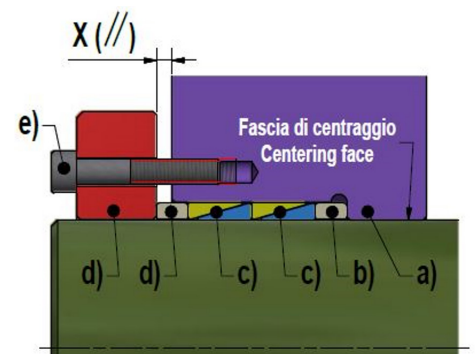
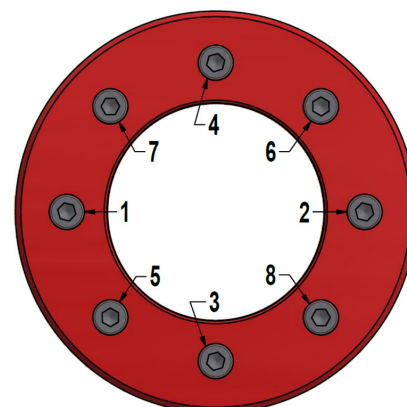

Fig. 4
Fig. 5
2. Install the parts in the following sequence (fig. 4).
3. Tighten the screws by hand in a crosswise pattern (fig. 5) until fitting clearances with shaft and hub bore are bridged and connected components are slightly locked, while making sure that hub is aligned as required using a dial indicator. The distance (X) between thrust ring and hub or shaft end **shall never be zero and be uniform** around the circumference (fig. 4). **Better centering of hub from the beginning of installation is essential for better centering when installation is completed.**
4. Use a torque wrench set approx. 5% higher than the design tightening torque. **Progressively tighten the screws in a crosswise pattern (fig. 5), using approx. ¼ turns for several passes until ¼ turns can no longer be achieved.**
7. **Check the distance (X) (fig. 4): the thrust ring must never contact the face of the hub or shaft end. Remaining distance shall be uniform** around the circumference.